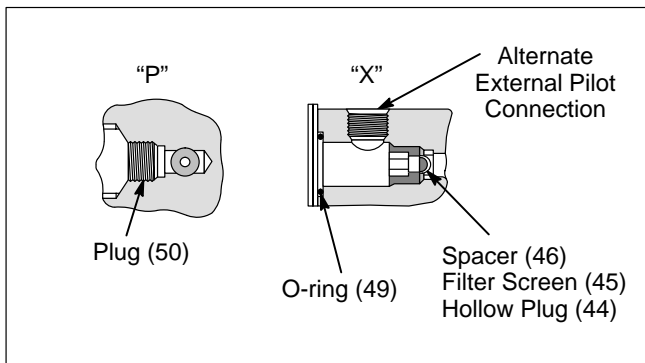

Figure 5. External Pilot Pressure "E" Plug Arrangement.
Internal pilot pressure models have plug (50) and O-ring (49) located in the "X" port; spacer (46), filter screen (45), hollow plug (44), and O-ring (43) are located in the "P" pressure port. To change the unit to an external pilot pressure "E" model, reverse location of plug (50) with spacer (46), filter screen (45) and hollow plug (44). See Figure 5.